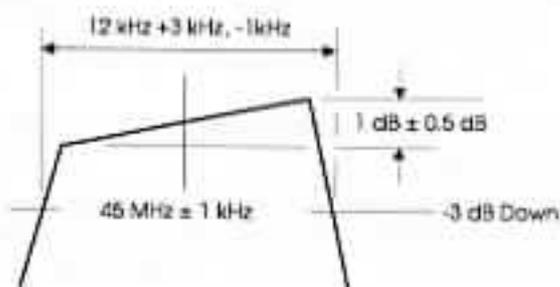

Figure 2: 45 MHz Crystal Filter Response
5. Tune trimmer capacitors C85, C72, and C67 for maximum response. The response should appear as shown in Figure 2 which follows. Note that the ideal response would be flat. However, III, as shown in the sketch, is the more likely response and is acceptable within the limits shown.